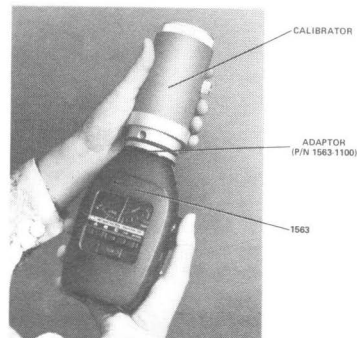

Figure 5-2. Type 1562 Calibrator mounted over 1563 Microphone.
- Stand the SLM on a flat surface or hold the two instruments as depicted by Figure 5-2.